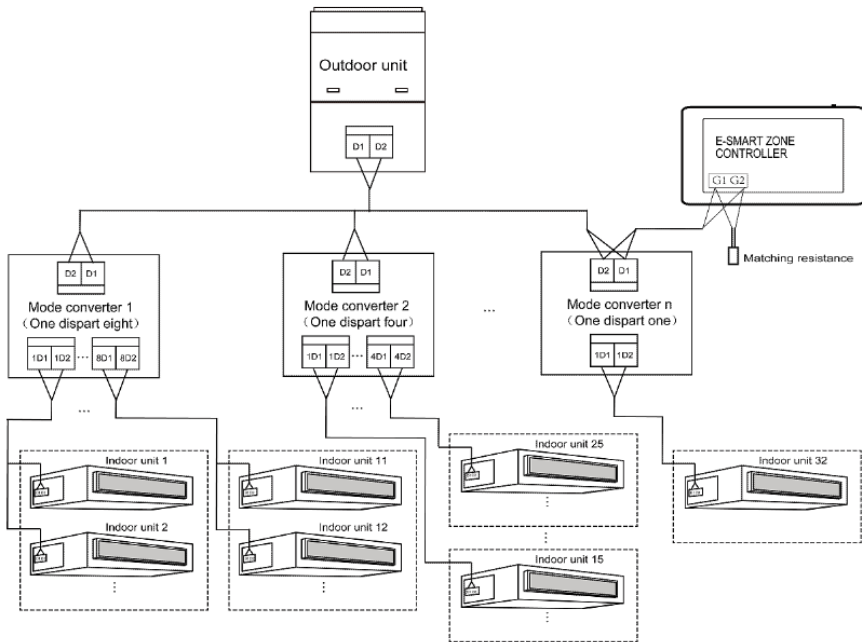

Fig. 1.6 Centralized Controller Connected with Heat Recovery Mode Converter Network
- (4) The centralized control address DIP switch (SA2_Addr-CC) indicates the centralized control address required when different refrigerating systems are controlled in a centralized manner. The default factory setting is "00000".
- (5) If the centralized controller is to be connected with the heat recovery network, connect according to Fig. 1.6. The method 2 is also applicable to centralized controller connected with the heat recovery network.